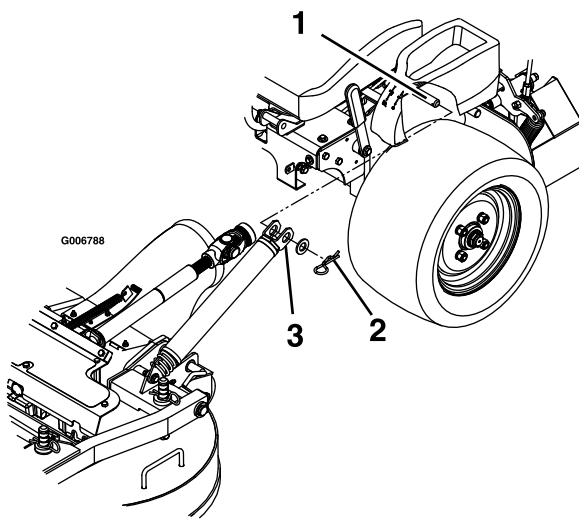

Figure 78
4. Remove the hairpin cotters and washers at the top of the deck-lift-assist spring on each side of the machine (Figure 78).
10. Install the springs onto the spring anchor pins under the left and right consoles and secure it with a washer and hairpin cotter (Figure 78).